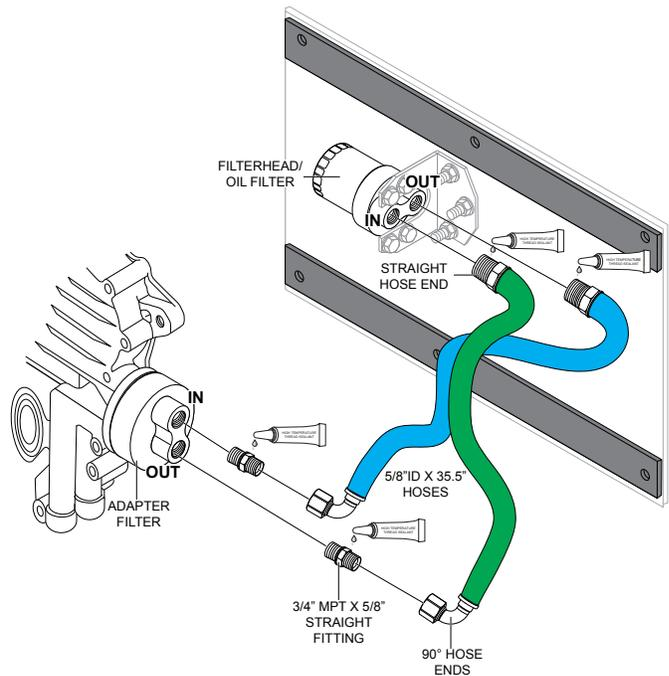

Figure 9. Filter Connections
2. Apply a high temperature sealant to the straight hose ends and connect to the filterhead as shown in Figure 9.
3. Apply a high temperature sealant to the fittings (Figure 9) and connect the fittings and 90° hose ends together.